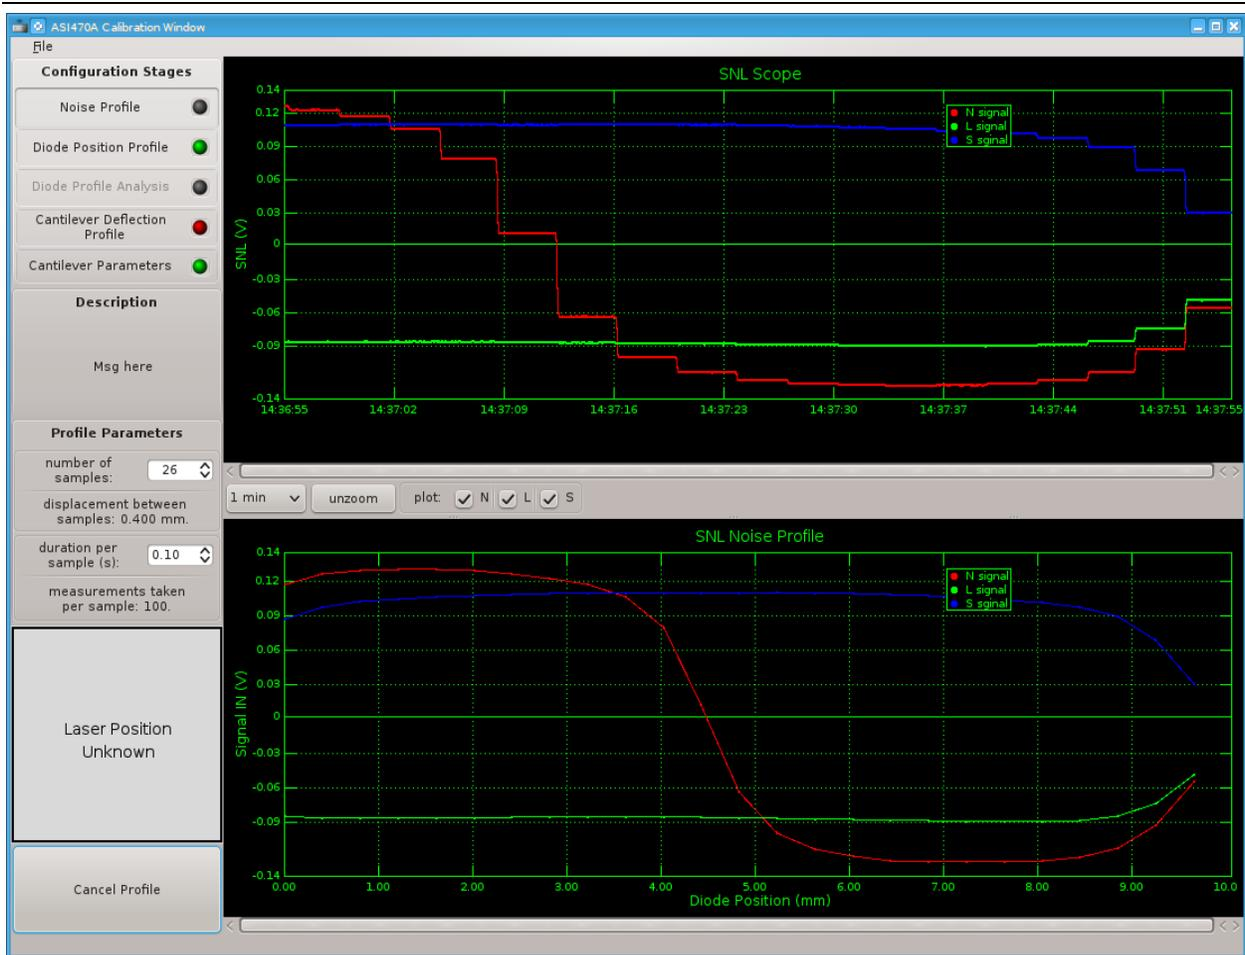

Figure 10 Noise Profile Stage of Calibration
7. The Noise Profile should look similar to that shown in Figure 10 **Error! Reference source not found.** on the bottom graph (SNL Noise Profile).